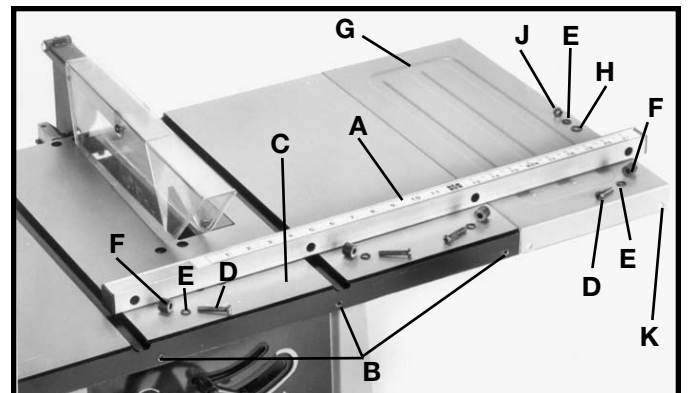

Fig. 20
1. Loosely fasten guide rail (A) Fig. 20, to three threaded holes (B) in saw table (C) using three 1/4-20 x 1-1/4" long screws (D), 1/4" lockwashers (E), and spacers (F). **IMPORTANT: Spacers (F) Fig. 20, are positioned between guide rail (A) and saw table (C).**
2. Fasten guide rail (A) Fig. 20, to extension wing (G) through hole (K) using the 1/4-20 x 1-1/4" long screw (D), 1/4" lockwasher (E), spacer (F), 1/4" flat washer (H), 1/4" lockwasher (E), and 1/4-20 hex nut (J). Then tighten all guide rail mounting hardware.
**IMPORTANT: Spacers (F) Fig. 20, are positioned between guide rail (A) and extension wing (G).**